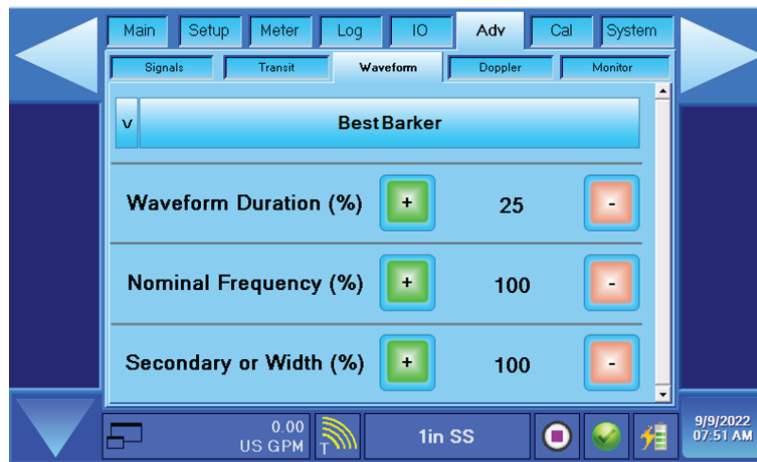

Figure 113: Waveform tab
6. Change the *Waveform Duration* to **25%**. See Figure 113.